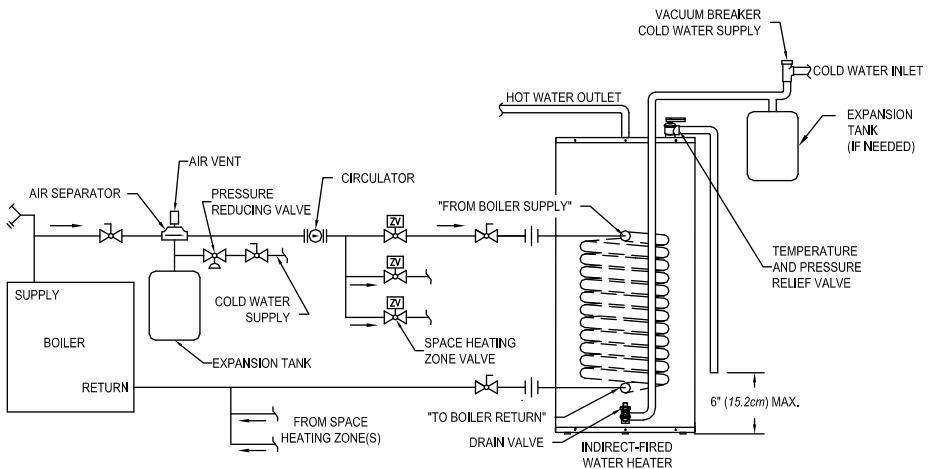

Figure 3 - Water Boiler Piping with Zone Valves
1. For a space heating system that utilizes ZONE VALVES, refer to Figure 3. The indirect-fired water heater connection labeled “FROM BOILER SUPPLY” should be piped to the boiler supply piping. Mount the circulator making sure the flow arrow points toward the water heater. The use of shut-off valves and unions are recommended for future service convenience. The use of an air separator and vent is recommended to eliminate air in the system. Pipe and fittings between the boiler and indirect-fired water heater must be $\frac{3}{4}$ ” diameter or larger.